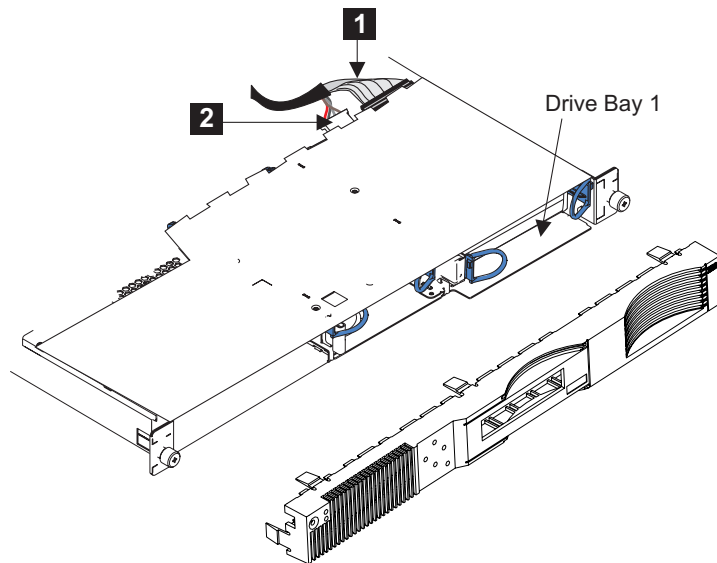

Figure 94. Replacing the SAN Volume Controller 2145-4F2 disk drive cables
1. Connect the SCSI signal connector **1** and the power connector **2** to the back of the disk drive, then replace the cable. See Figure 94.